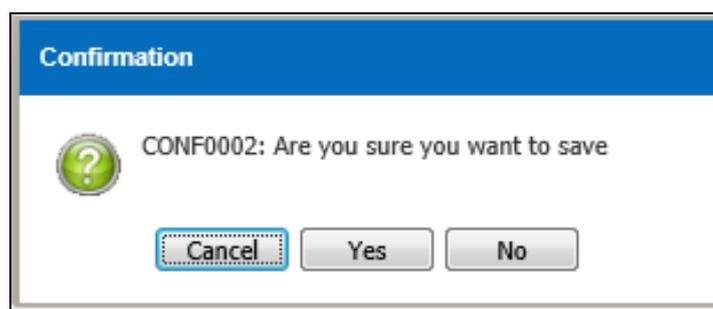

Figure 3.6.1-3 Confirmation Message
- Alert message as shown in Figure 3.6.1-4 will be displayed after user save the transaction
- Record will save when user click on the  button as shown in Figure 3.6.1-5